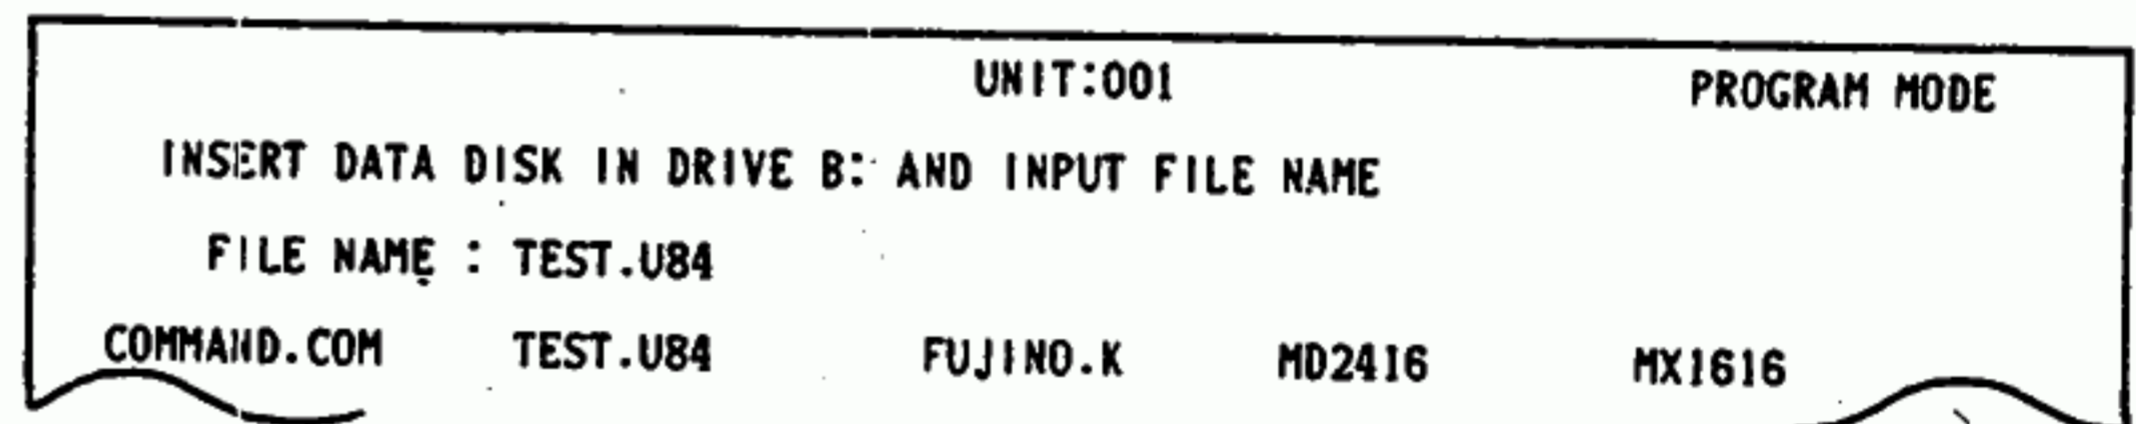

Fig. 4.47
2. Depressing **DIRECTORY** key displays the file names. (Fig. 4.47)